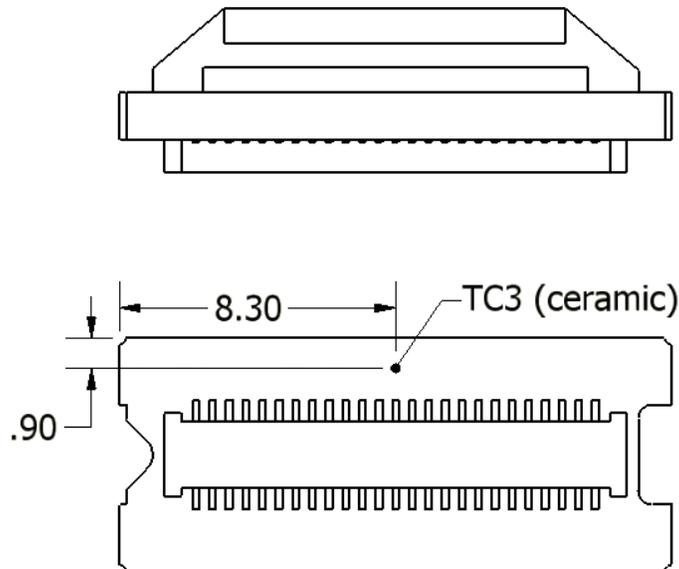

Figure 11. Thermal Test Point Location
The DMD is designed to conduct the absorbed and dissipated heat back to the series 220 package where it can be removed by an appropriate system thermal management. The system thermal management must be capable of maintaining the package within the specified operational temperatures at the Thermal test point location, see Figure 11. The total heat load on the DMD is typically driven by the incident light absorbed by the active area; although other contributions can include light energy absorbed by the window aperture, electrical power dissipation of the array, and/or parasitic heating.
The temperature of the DMD case can be measured directly. For consistency, a thermal test point location is defined, as shown in Figure 11.
- Thermal test point location (see Figure 11)